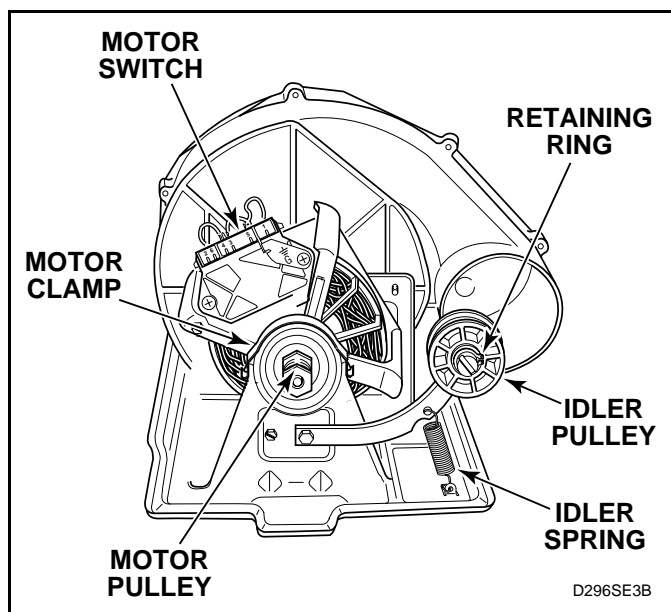

Figure 42
See *Figure 42* for motor and idler pulley removal.
- (2) Pry two motor clamps off motor mounting bracket with screwdriver, then lift motor out of mounting bracket. See *Figure 42*.